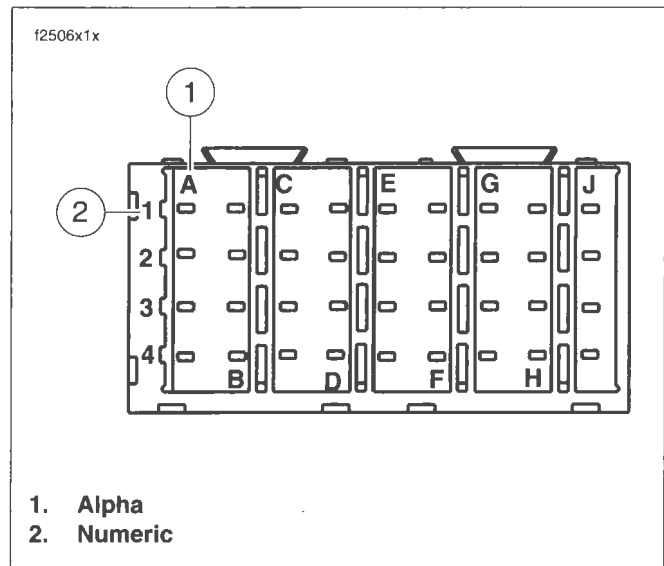

Figure B-24. Fuse Block Coordinates
- See Figure B-24. The main fuse block terminal cavity is identified as alpha (1) and numeric (2) coordinates. Refer to the main harness wiring diagram for fuse block terminal cavity coordinates.